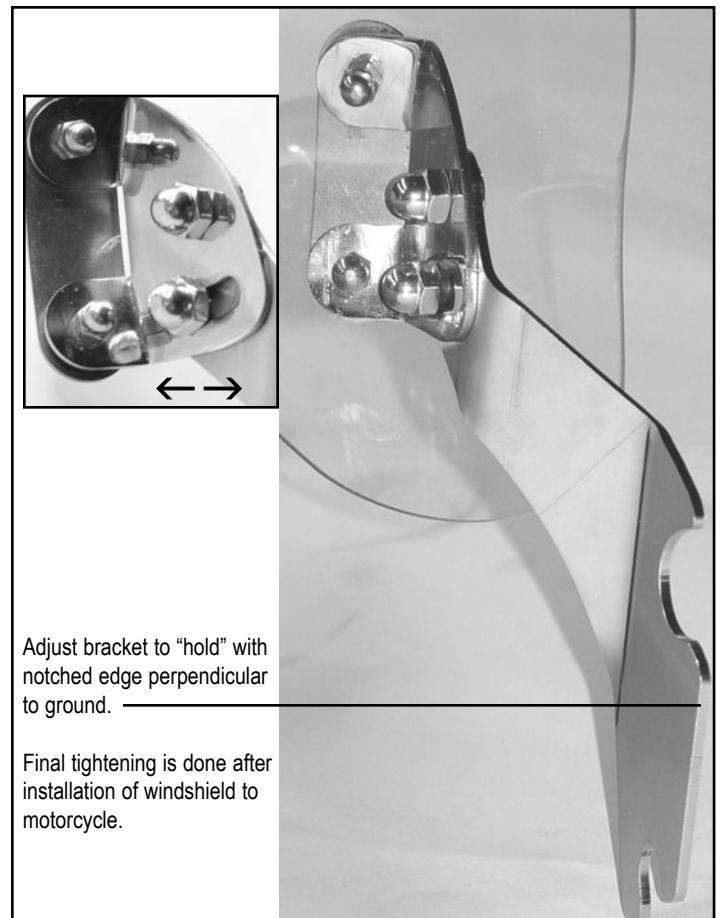

Figure 3.
3. Repeat on left side. For now, adjust Brackets so notched edge is perpendicular to the ground and screen has a slight rake. Tighten to hold. **Figure 3.**